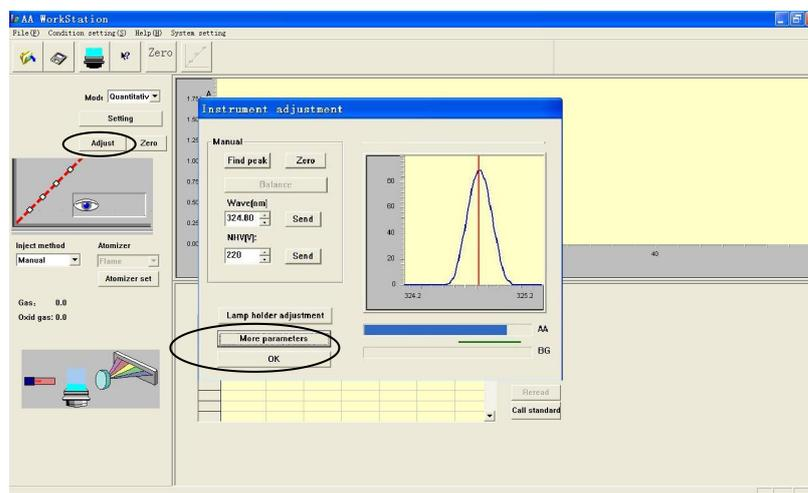

Figure 6-1
3. Press "Instrument adjustment" to show a dialog as shown in Figure 6-1.